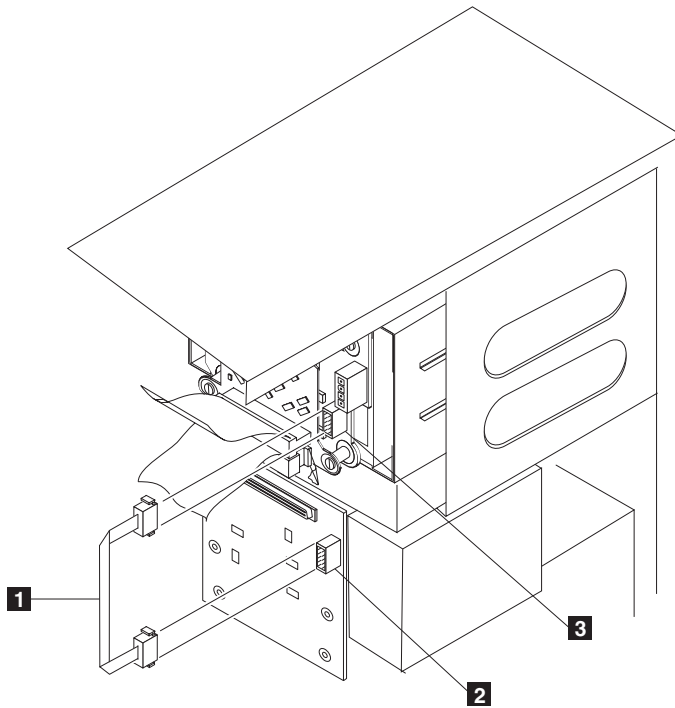

Figure 78. Attaching the gray I²C cable
- a) Connect one of the I²C cable connectors to the SCSI backplane (see Figure 78 on page 144 for the connector location on the SCSI backplane).
- b) Connect the other I²C cable connector to the new 3-Pack Expansion SCSI backplane (see Figure 78 for the connector location on the 3-Pack Expansion backplane).